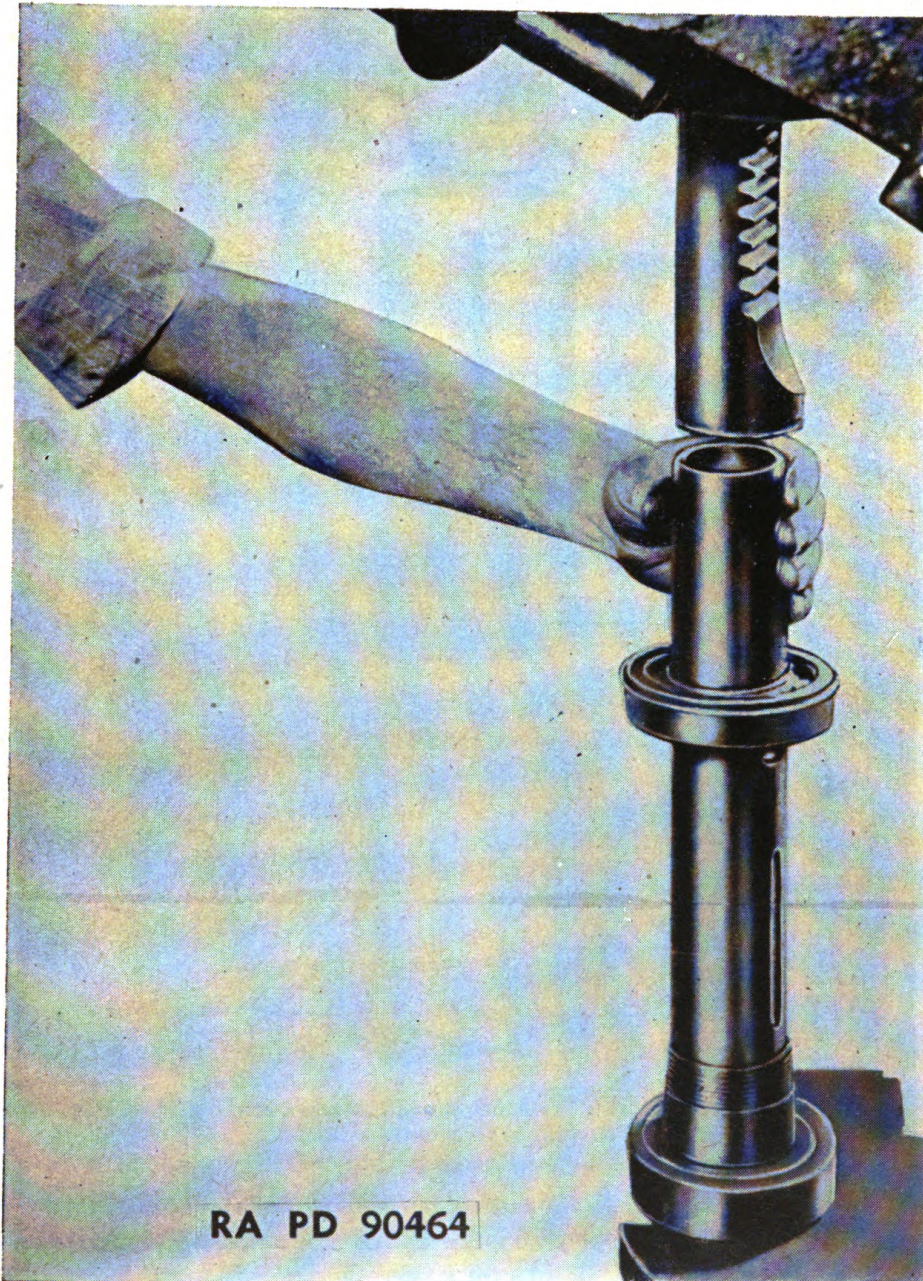

Figure 10. Use tubing with squared ends to avoid cocking bearing.
b. TUBING OR PIPE (fig. 10). If the distance between the end of the shaft and the bearing seat is fairly short, hold the shaft in a vise and press the bearing onto the shaft with a clean section of soft metal tubing squared on the ends and of such inside diameter as to slip loosely over the shaft. This can be done either in an arbor press or by tapping with a hammer *evenly* around the tube. Never use a hammer direct on any bearing; it will damage the bearing. If the shaft is too long, use a split pipe wired together.